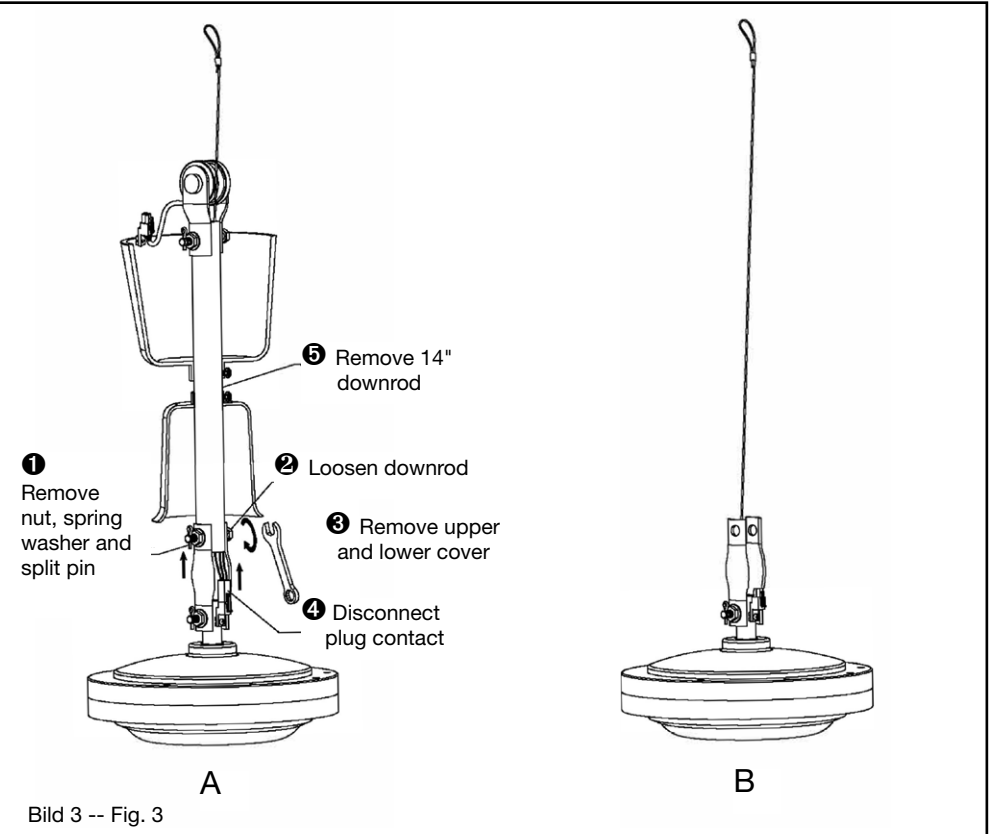
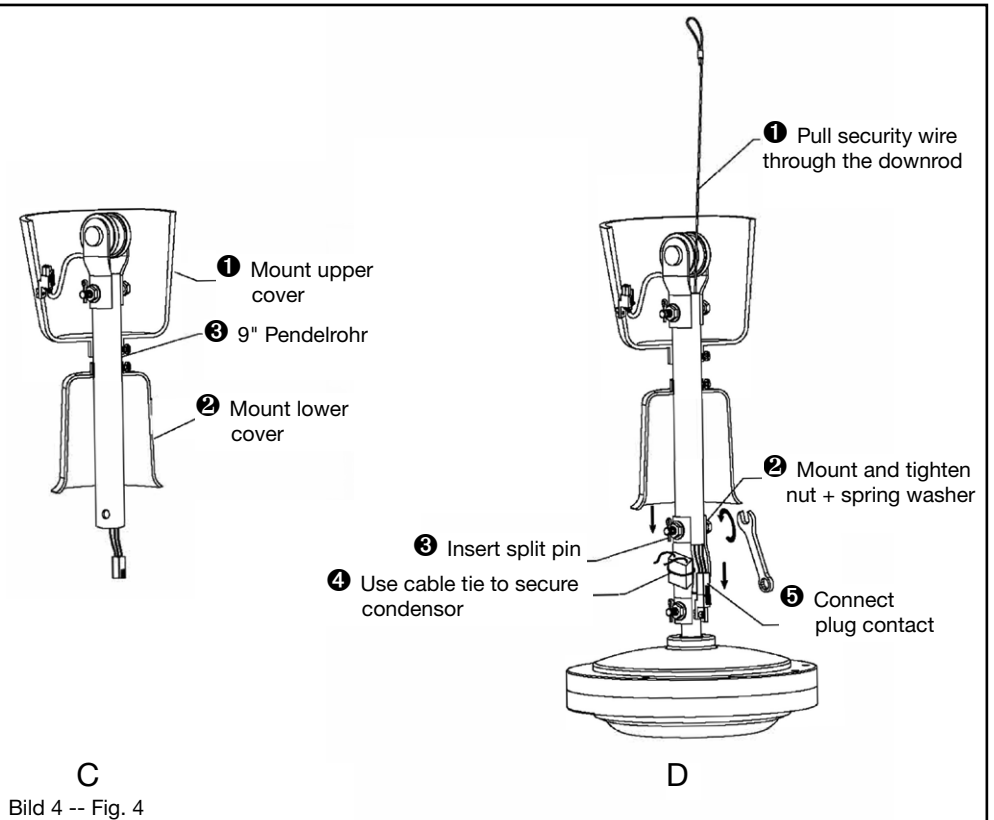

Bild 3 -- Fig. 3
Bild 4 -- Fig. 4
1. Determine which downrod (short or long) is to be used. (Fig. 3 and Fig. 4)